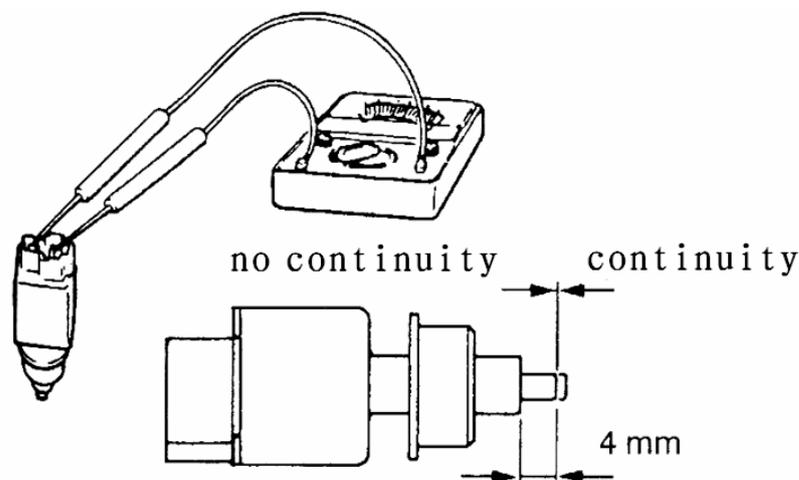

FIG.16-72
(1) Connect an ohmmeter between the stop lamp switch connector terminals.
(2) There should be no continuity between the terminals when the plunger is pushed in as shown in FIG.16-72. There should be continuity when it is released.